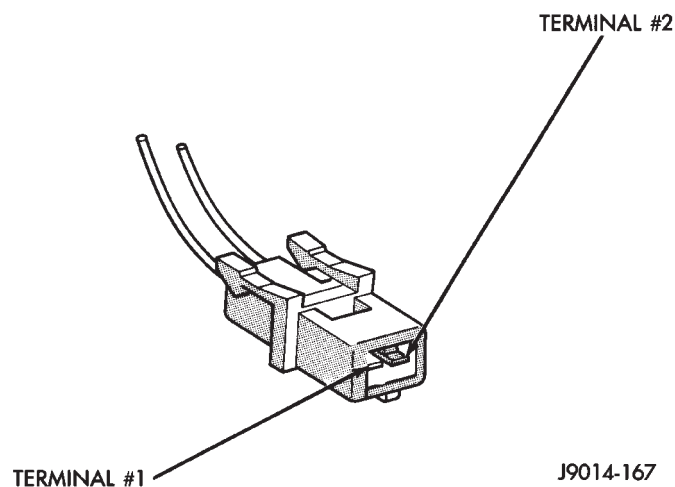

Fig. 1 Injector Harness Connector
- (1) Loosen fuel filler cap to release fuel tank pressure.
- (2) Disconnect injector wiring harness connector (Fig. 1).